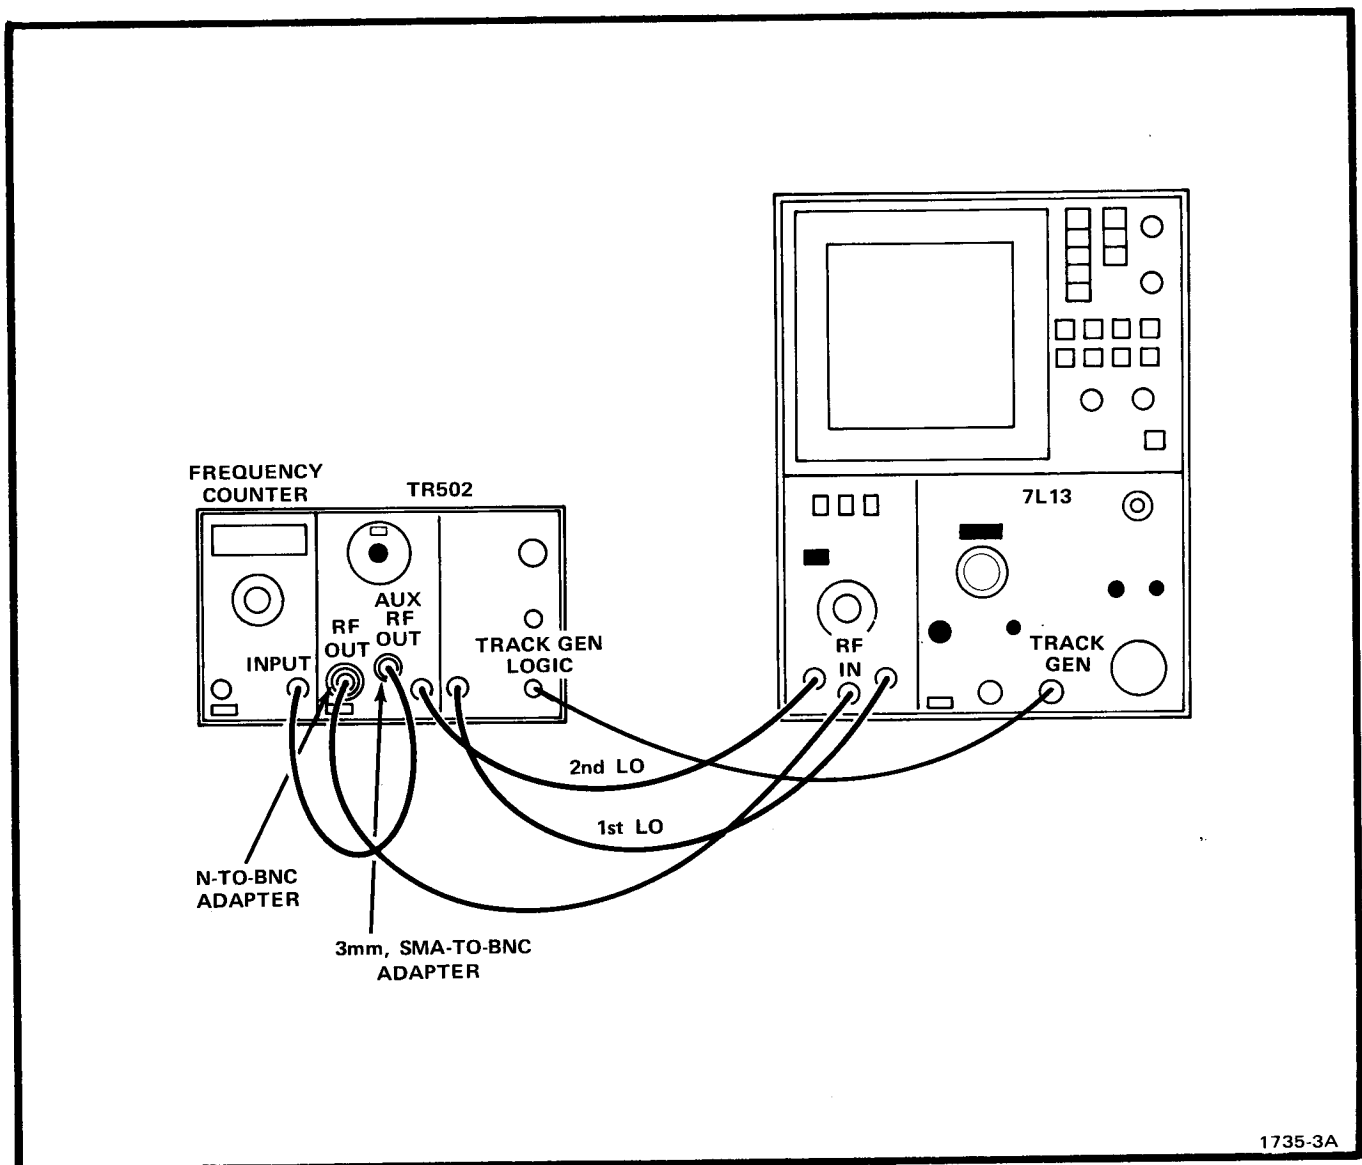

Fig. 2-1. TR 502/7L13 Spectrum Analyzer System with a Frequency Counter.
b. Using the coaxial cables, supplied with the standard accessories, connect the 1st and 2nd LO Output ports of the spectrum analyzer to the 1st and 2nd LO INPUT ports of the TR 502, then connect the RF OUT to the RF Input of the spectrum analyzer. If a frequency counter is used, connect the AUX RF Output of the TR 502 to the RF Input of the counter. Fig. 2-1 illustrates the system hookup.